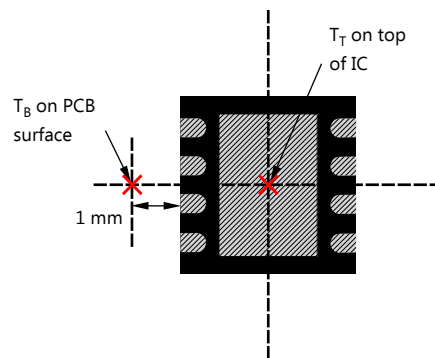

Figure 25. Measuring Points for T_T and T_B
- T_B is the PCB temperature measured 1 mm away from the device package on the PCB surface (as shown in Figure 25). (5)